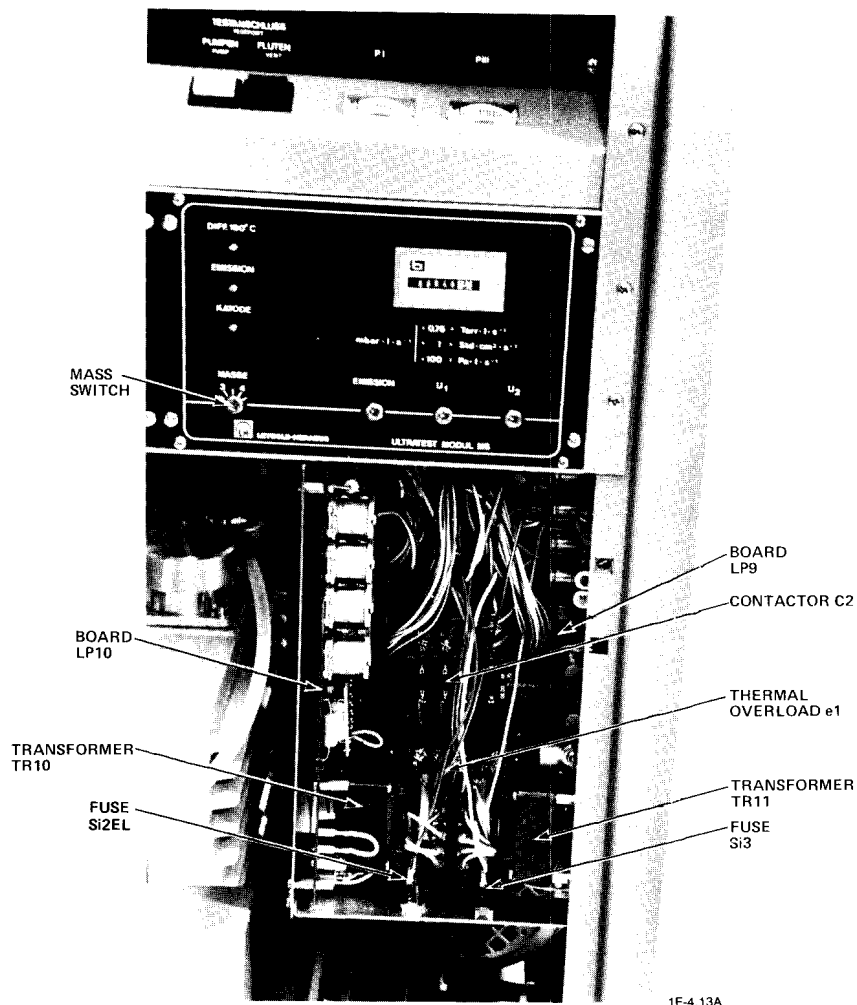

Figure 8-20 - Electrics (EL) Module Showing the Pc Boards and Major Components
The electrics (EL) module contains PC boards LP9 and LP10, contactor C1 and C2, thermal overload e1, and fuses Si2EL and Si3 (See Figure 8-20). Fuses Si2EL and Si3 protect LP9 and LP10 and the valve block wiring.
When installing LP9 and LP10 into the EL unit, ensure that the transformer on both boards faces the bottom of the EL module (see Figure 8-20).